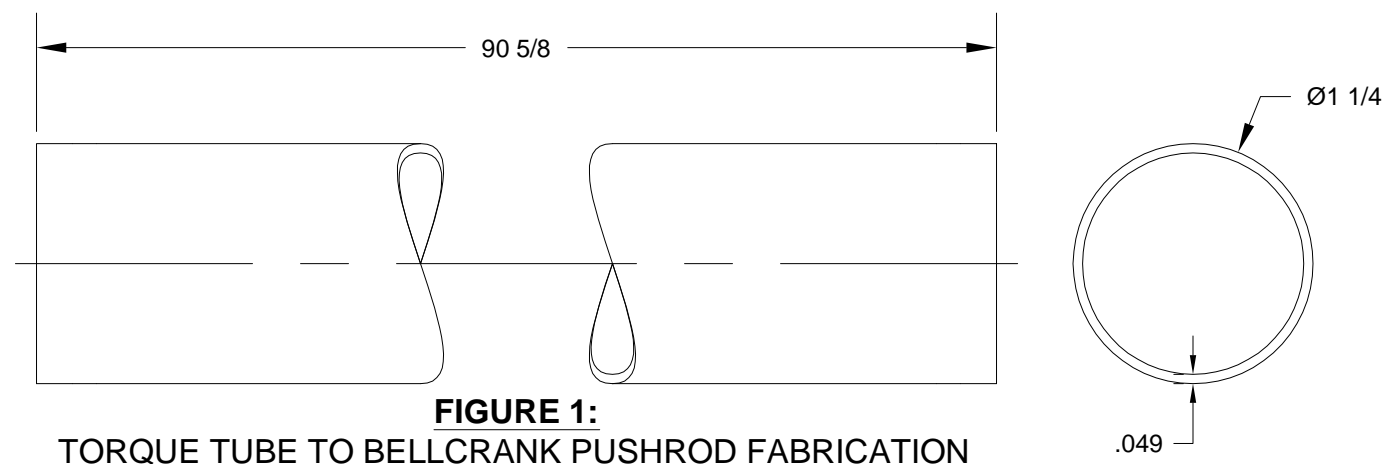

FIGURE 1:
Step 1: Fabricate two **W-1017A** Torque Tube to Bellcrank Pushrods by cutting two pieces of AT6-049 X 1 1/4 to the length shown in Figure 1.
Step 2: Cut-out Page 23-10, Figure 1 and use it as a wrap-around template for locating the rivet holes in both ends of both **W-1017A** Torque Tube to Bellcrank Pushrods. Use clear tape to make the template into a ring and align it with the end of the pushrod. Center-punch the "cross hairs" in the wrap-around template. Remove the template and use a #40 drill to make six pilot holes in each end of both torque tube to bellcrank pushrods. Deburr the hole edges on the inside of the pushrod tubes.